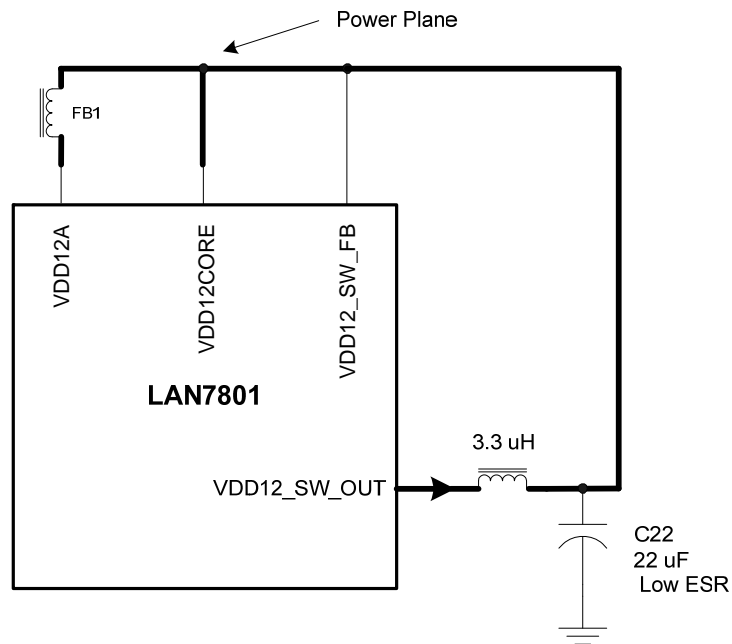

Figure 3 - LAN7801 +1.2V Power Connections
6. VDD12CORE (pins 28 & 54), these two core input power supply pins may be powered from the internal +1.2V switching regulator. In this application, these two pins should be connected directly to the 3.3 uH output inductor of the +1.2V switching regulator of the LAN7801. See figure 3 below for more details. These two pins can also be supplied from an external +1.2V power supply. In this application, the internal +1.2V switching regulator can be disabled.
8. VDD12A (pins 37, 42, & 62), these three pins supply power to the analog blocks (the USB PLL / AFE section) of the LAN7801 from the internal +1.2V switching regulator through a ferrite bead. Be sure to place bulk capacitance on each side of the ferrite bead. A 1.0 uF, low ESR cap is required on the pin 37, 42, & 62 side of the ferrite bead. In this application, the ferrite bead should be connected to the 3.3 uH output inductor of the +1.2V switching regulator of the LAN7801. See figure 3 below for more details. These three pins can also be supplied from an external +1.2V power supply. In this application, the internal +1.2V switching regulator can be disabled.